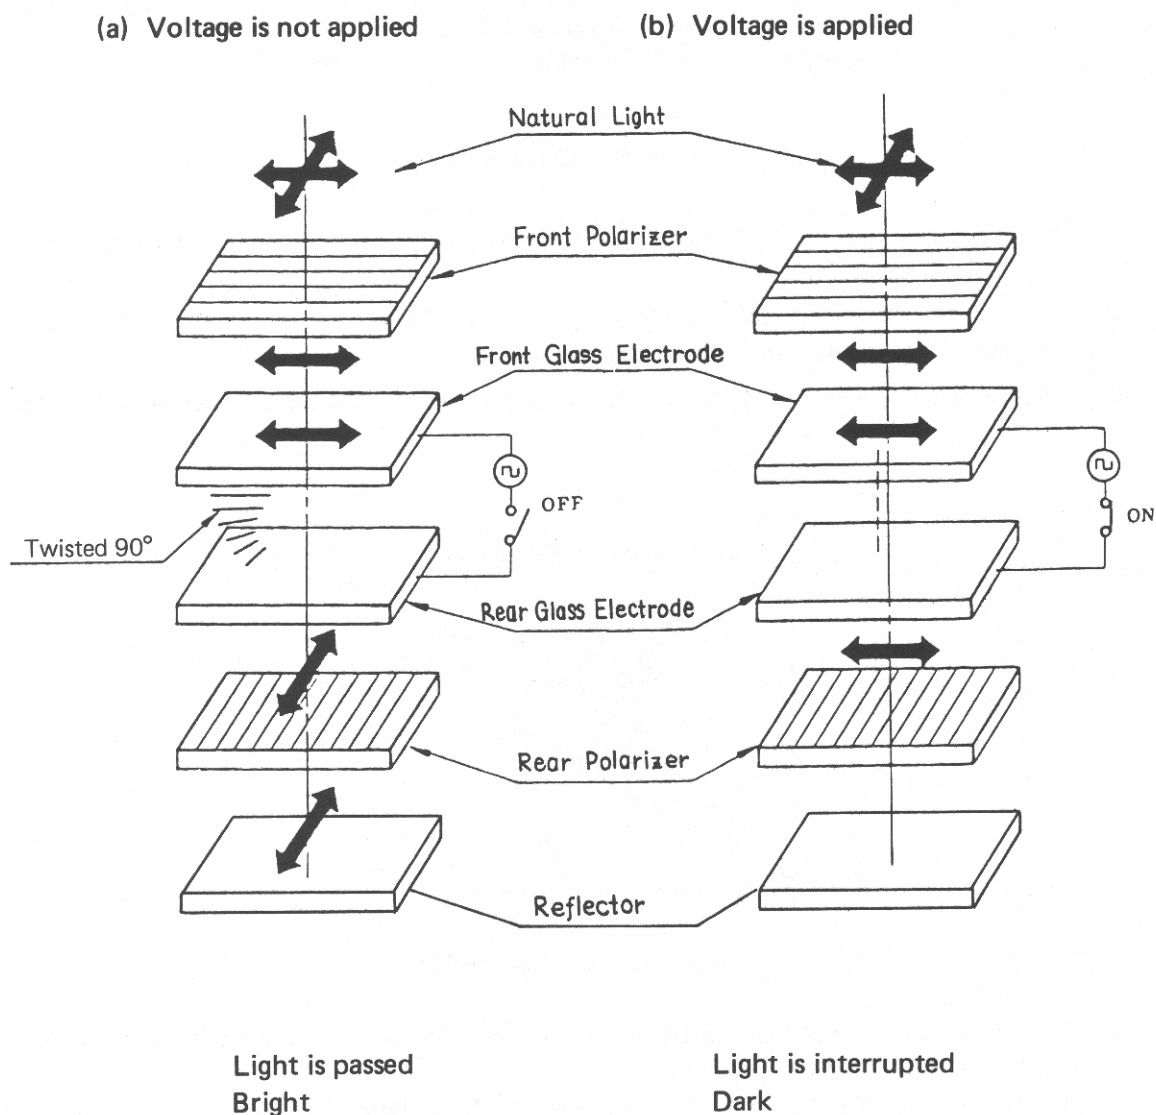

Fig. 4-31 Operation Theory of LCD Panel
Fig. 4-31 demonstrates how the LCD operates:
- (1) The liquid-crystal display element is sandwiched between the two polarization plates. The polarized axes of the upper and lower plates are placed at right angles to each other to use the optical "twisting" of light.
- (2) As shown in Fig. 4-31(a), if voltage is not applied, the liquid-crystal molecules between the upper and lower plates twist 90° to distribute light. This results in a 90° optical movement and the transmission of light.
- (3) In Fig. 4-31(b), however, voltage is applied and the liquid appears frosted in current-carrying areas, thus blocking light transmission.
Fig. 4-31 shows the drive waveform for illumination and non-illumination.